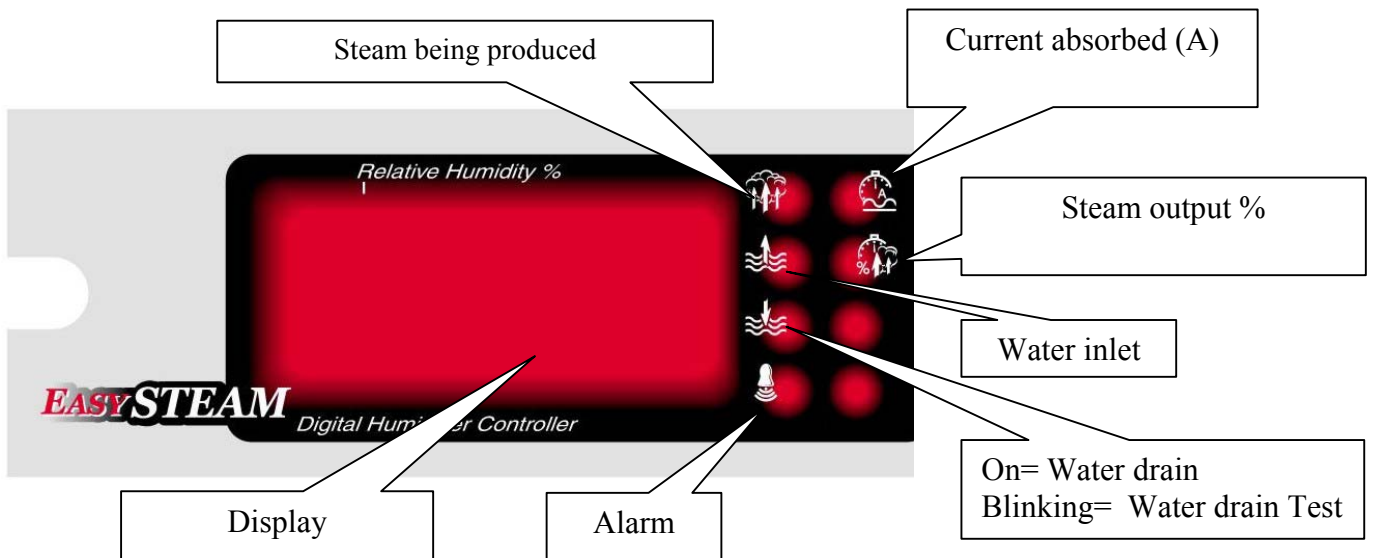
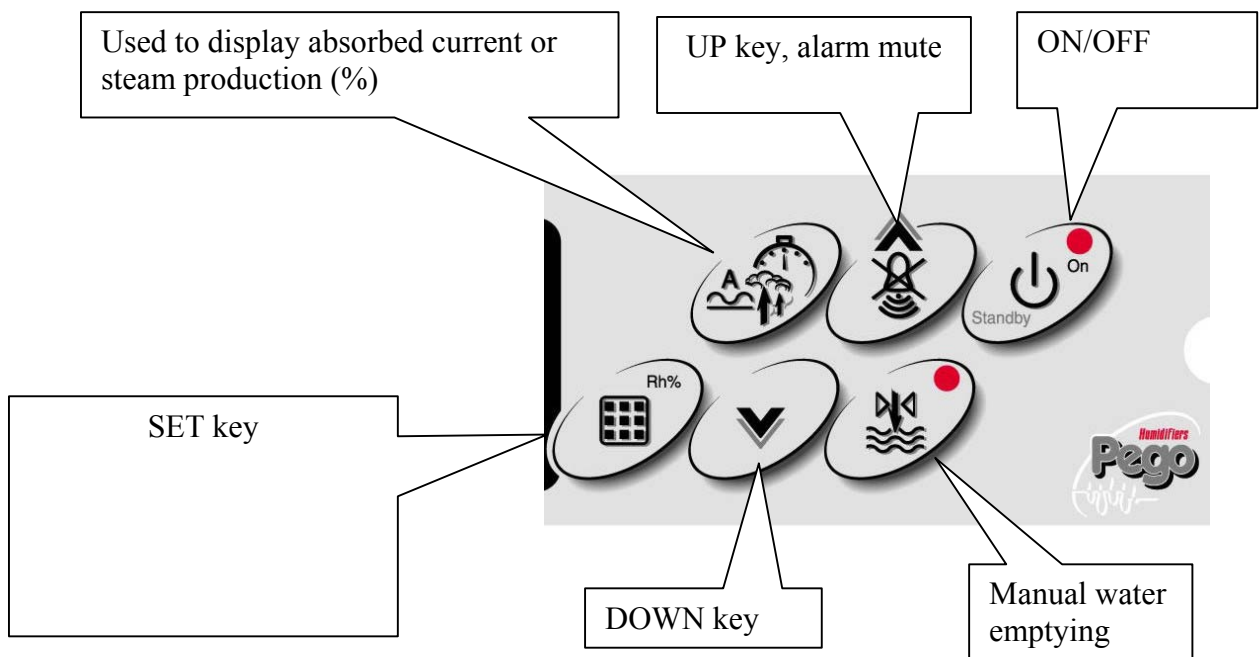

Fig. 25
Fig. 26
1. The SLIM CONTROLLER is the control unit on the front of the humidifier. It consists of an 8-LED display to visually check values (fig. 25) and 6 keys to adjust display and modify settings (fig. 26).